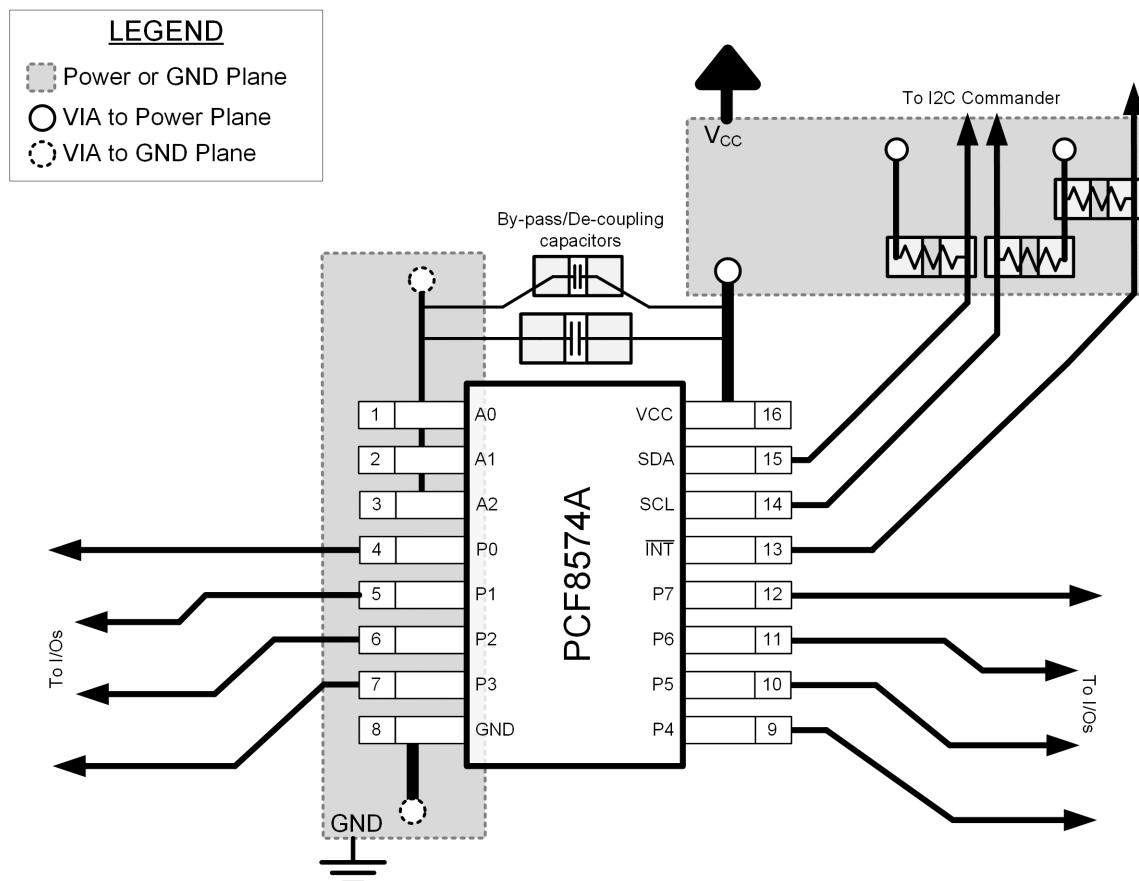

图 11-1. Layout Example for PCF8574A
When the I/Os are used to control LEDs, normally they are connected to V_{CC} through a resistor as shown in 图 11.1. For a P-port configured as an input, I_{CC} increases as V_I becomes lower than V_{CC} . The LED is a diode, with threshold voltage V_T , and when a P-port is configured as an input the LED will be off but V_I is a V_T drop below V_{CC} .
In all PCB layouts, it is a best practice to avoid right angles in signal traces, to fan out signal traces away from each other upon leaving the vicinity of an integrated circuit (IC), and to use thicker trace widths to carry higher amounts of current that commonly pass through power and ground traces. By-pass and de-coupling capacitors are commonly used to control the voltage on the V_{CC} pin, using a larger capacitor to provide additional power in the event of a short power supply glitch and a smaller capacitor to filter out high-frequency ripple. These capacitors should be placed as close to the PCF8574A device as possible. These best practices are shown in 图 11-1.
For the layout example provided in 图 11-1, it would be possible to fabricate a PCB with only 2 layers by using the top layer for signal routing and the bottom layer as a split plane for power (V_{CC}) and ground (GND). However, a 4 layer board is preferable for boards with higher density signal routing. On a 4 layer PCB, it is common to route signals on the top and bottom layer, dedicate one internal layer to a ground plane, and dedicate the other internal layer to a power plane. In a board layout using planes or split planes for power and ground, vias are placed directly next to the surface mount component pad which needs to attach to V_{CC} or GND and the via is connected electrically to the internal layer or the other side of the board. Vias are also used when a signal trace needs to be routed to the opposite side of the board, but this technique is not demonstrated in 图 11-1.